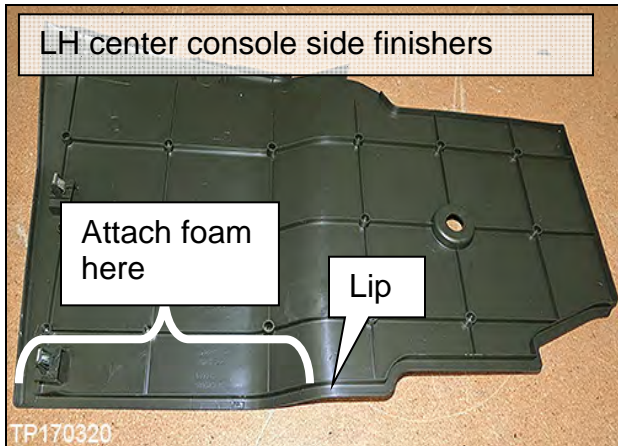

Figure 1B
1. Attach two (2) foam pieces (foam piece #6) to the center console side finishers one at a time as follows:
- Attach where shown in Figures 1B and 2B and as shown in Figure 3B.